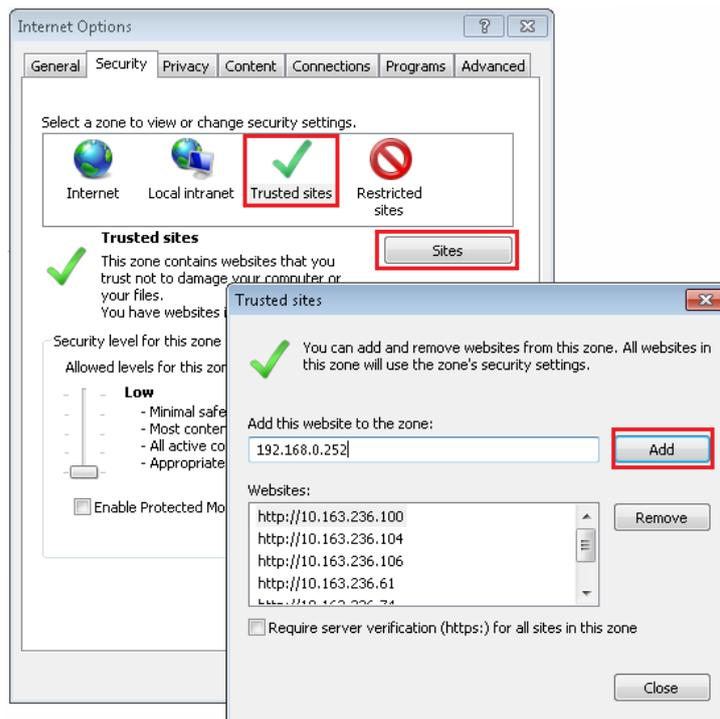

Figure 6-8 Adding trusted sites
6. In the window shown in Figure 6-8, add the IP address of the MSC intelligent monitoring unit into the **Trusted sites** list.